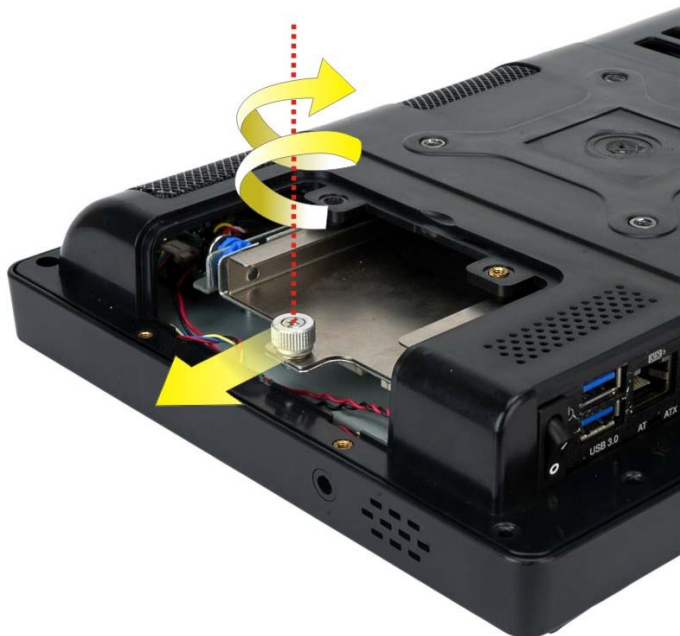

Figure 3-2: HDD Bracket Removal
Step 3: Loosen the captive screw to release the HDD bracket from the chassis. Slide the HDD bracket out of the device as shown (Figure 3-2).